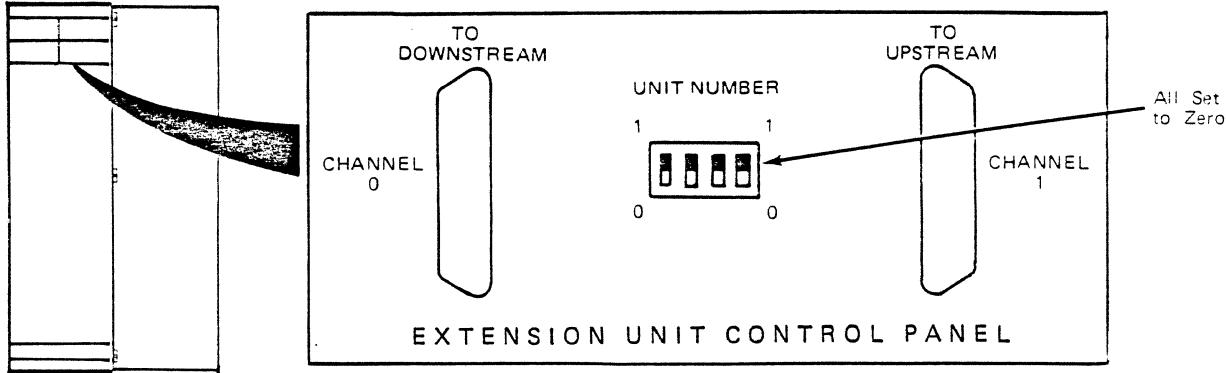

Figure 6-3. Extension Unit Control Panel
- If there is an Extension Unit Control feature (Figure 6-3) verify that the UNIT NUMBER (frame number) dipswitch is set to 0. If necessary, set the dipswitches.